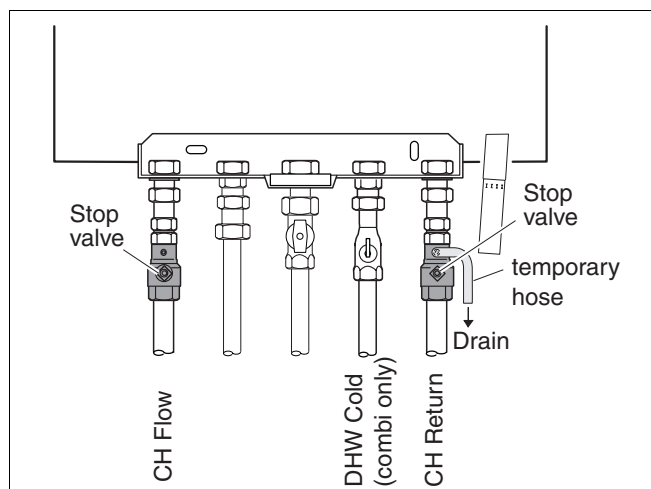

Fig. 12 Draining the system
- Connect temporary hose (fig. 12).